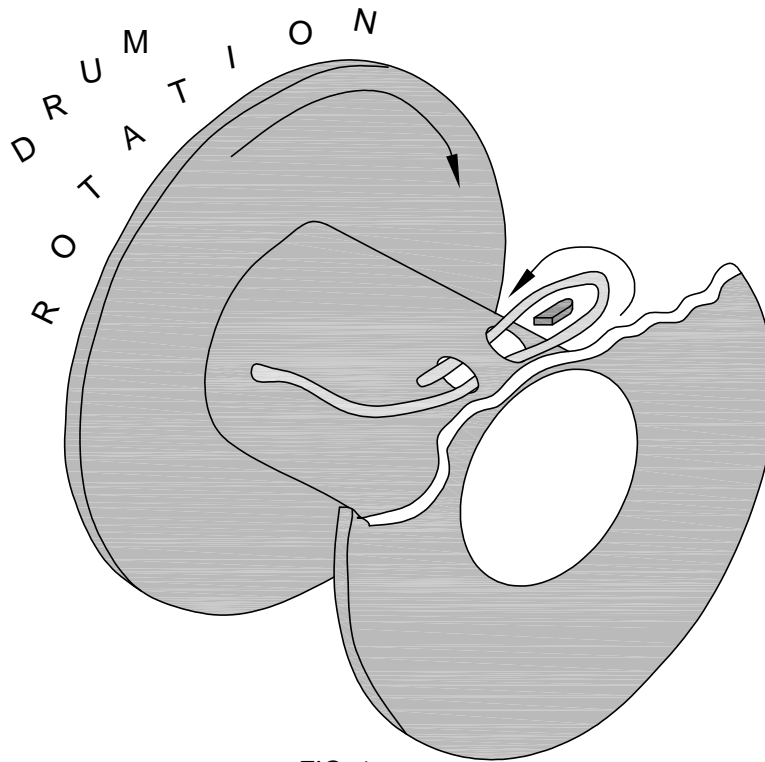

FIG. 1
- STEP 3:** INSERT WIRE ROPE END INTO POCKET OPENING ON WINCH, WRAP AROUND WEDGE, AND BACK THROUGH POCKET OPENING AS SHOWN IN FIGURE 1.